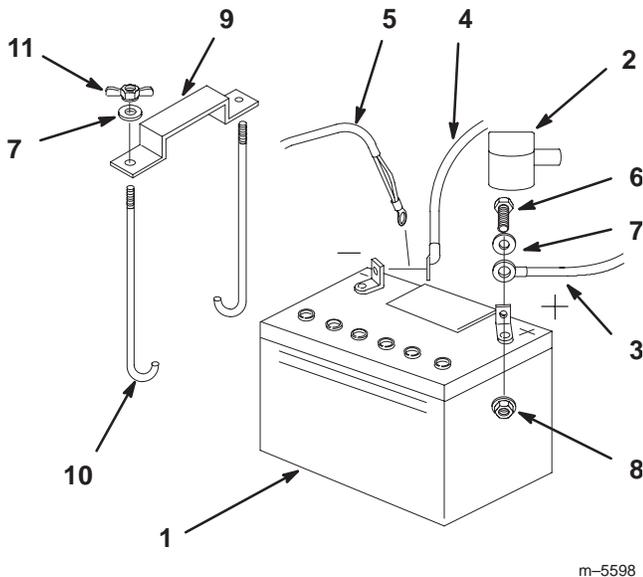

Figure 62
1. Position battery in tray with terminal posts toward the engine (Fig. 62).
4. Secure cables with 2 bolts (1/4 x 3/4 inch), 2 washers (1/4 inch), and 2 locknuts (1/4 inch) (Fig. 62).
- Secure battery with J-bolts, hold down clamp and 2 washers (1/4 inch), and 2 wing nuts (1/4 inch) (Fig. 62).
- First disconnect the negative battery cable and ground wire from the negative (-) battery terminal (Fig. 62).
- Slide the red terminal boot off the positive (red) battery terminal. Then remove positive (red) battery cable (Fig. 62).
- Remove both wing nuts (1/4 inch) securing the battery clamp (Fig. 62).